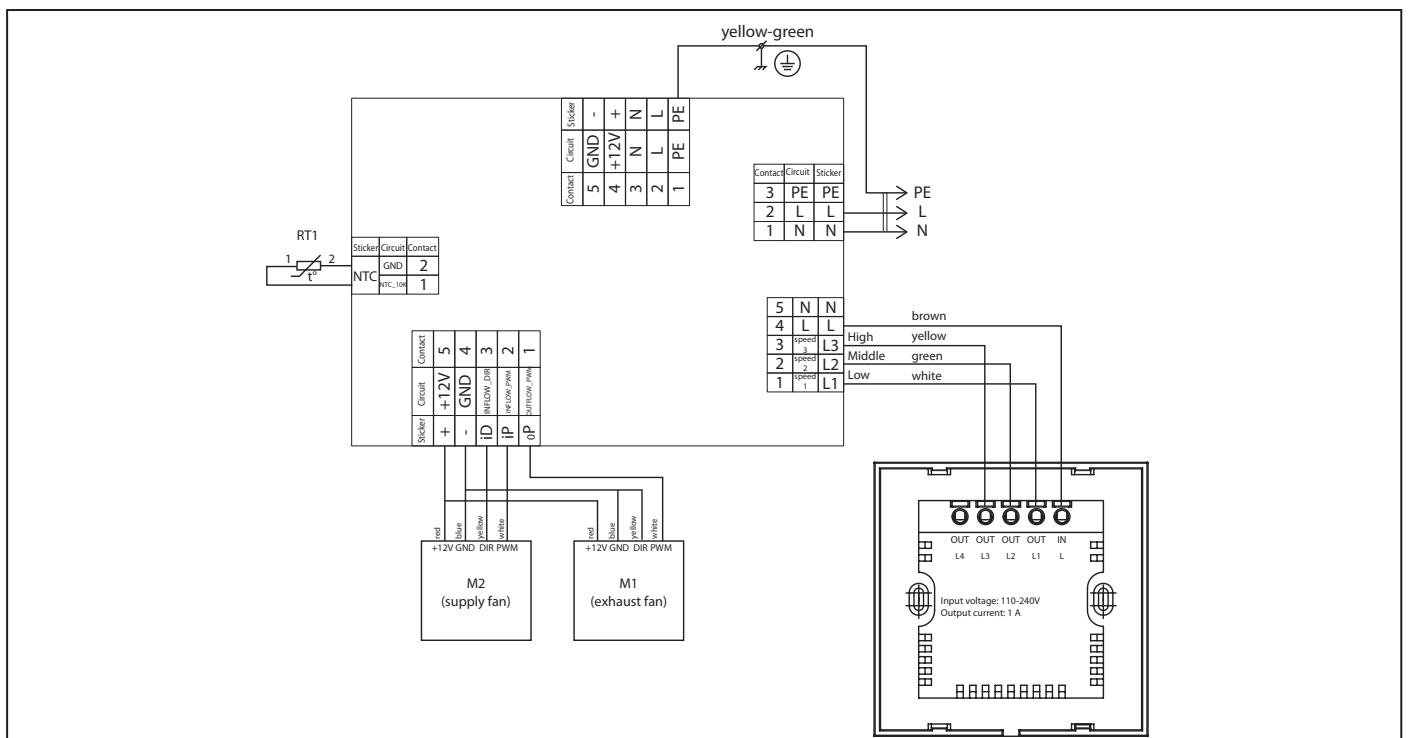

Fig. 12. Wiring diagram
The control unit is installed under the protecting panel of the air handling unit, fig. 12.
5. Connect the control cable to the speed switch following the wiring diagram, fig. 12.